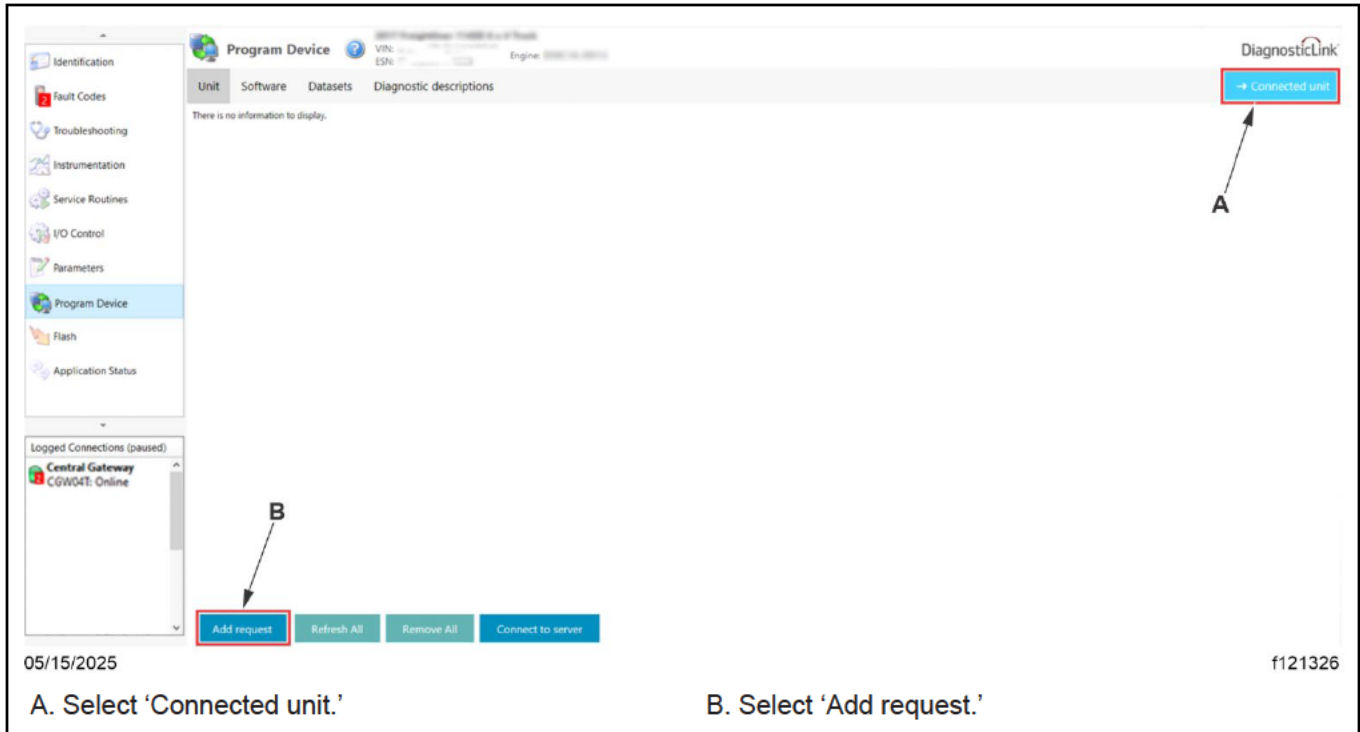

Fig. 3, Connected Unit Screen
10. If the VIN is not automatically detected, select the 'Connected Unit' button. Select 'Add request' to manually connect DiagnosticLink to the vehicle. See Fig. 3.